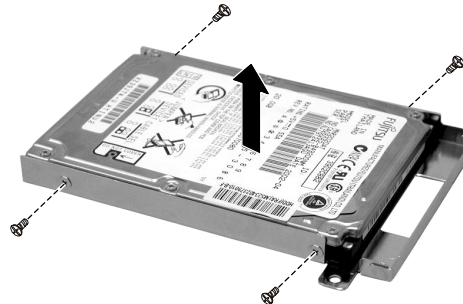

Figure 2-10 Remove hard disk drive
5. Remove the four screws on the both side of hard disk drive bracket, then lift drive up. (Figure 2-10)